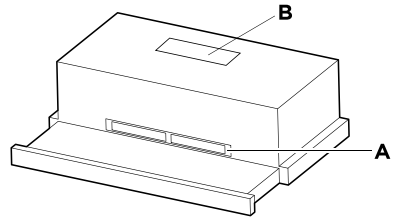

Fig.1 Preparing for install
Note: Do not remove venting cover (B), see Fig. 1
- Remove venting cover, using a flat head screw driver and mallet, break the 6 tangs holding venting cover (B) in place, see Fig. 1
- Place a strip of aluminium tape over front vent (A), see Fig. 1